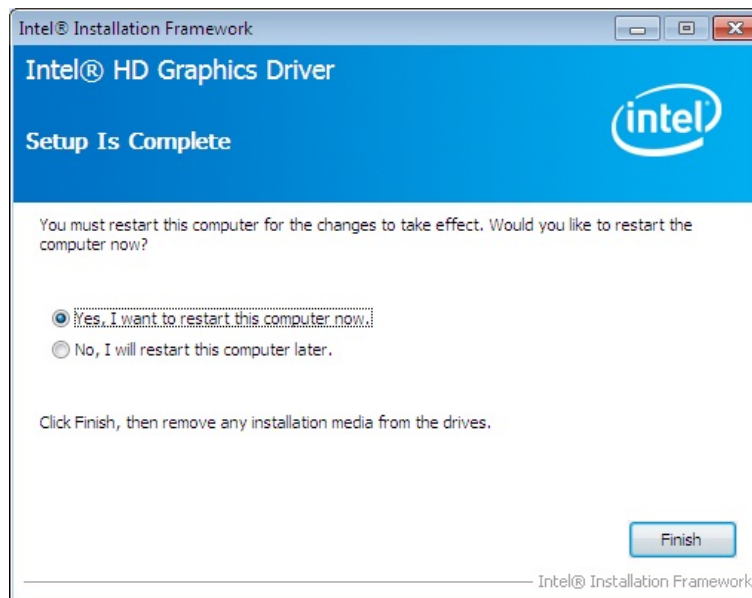

Figure 6-10: Graphics Driver Installation Finish Screen
Step 11: The **Finish** screen in **Figure 6-10** appears.